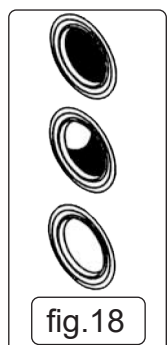

fig.18
- 8.4.3. Check the fluid level. Look at the oil sight lens and follow the instructions (fig.18).